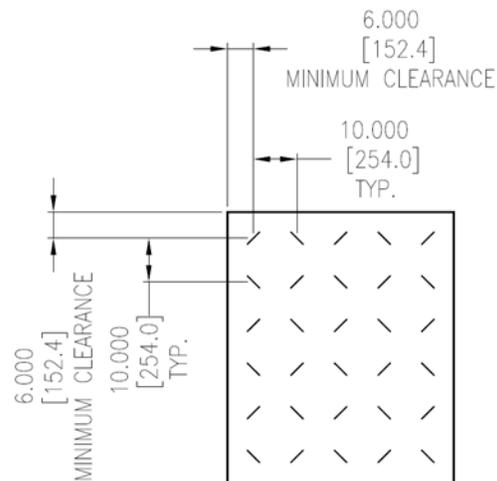

Figure 14. Example of 10"x10" (25.4x25.4 cm) Wire Anchor Pattern
- a. For vertical walls, sloped floors and overhead generally use 10" (25.4 cm) centers as shown in Figure 14.